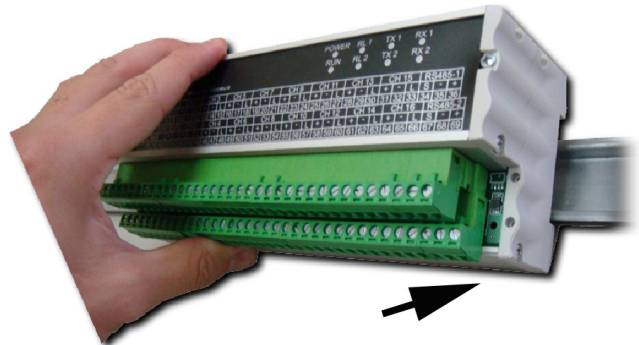

Figure 4
1. Place the bottom of the XM-210 in the DIN 35 mm rail as shown in Figure 4.